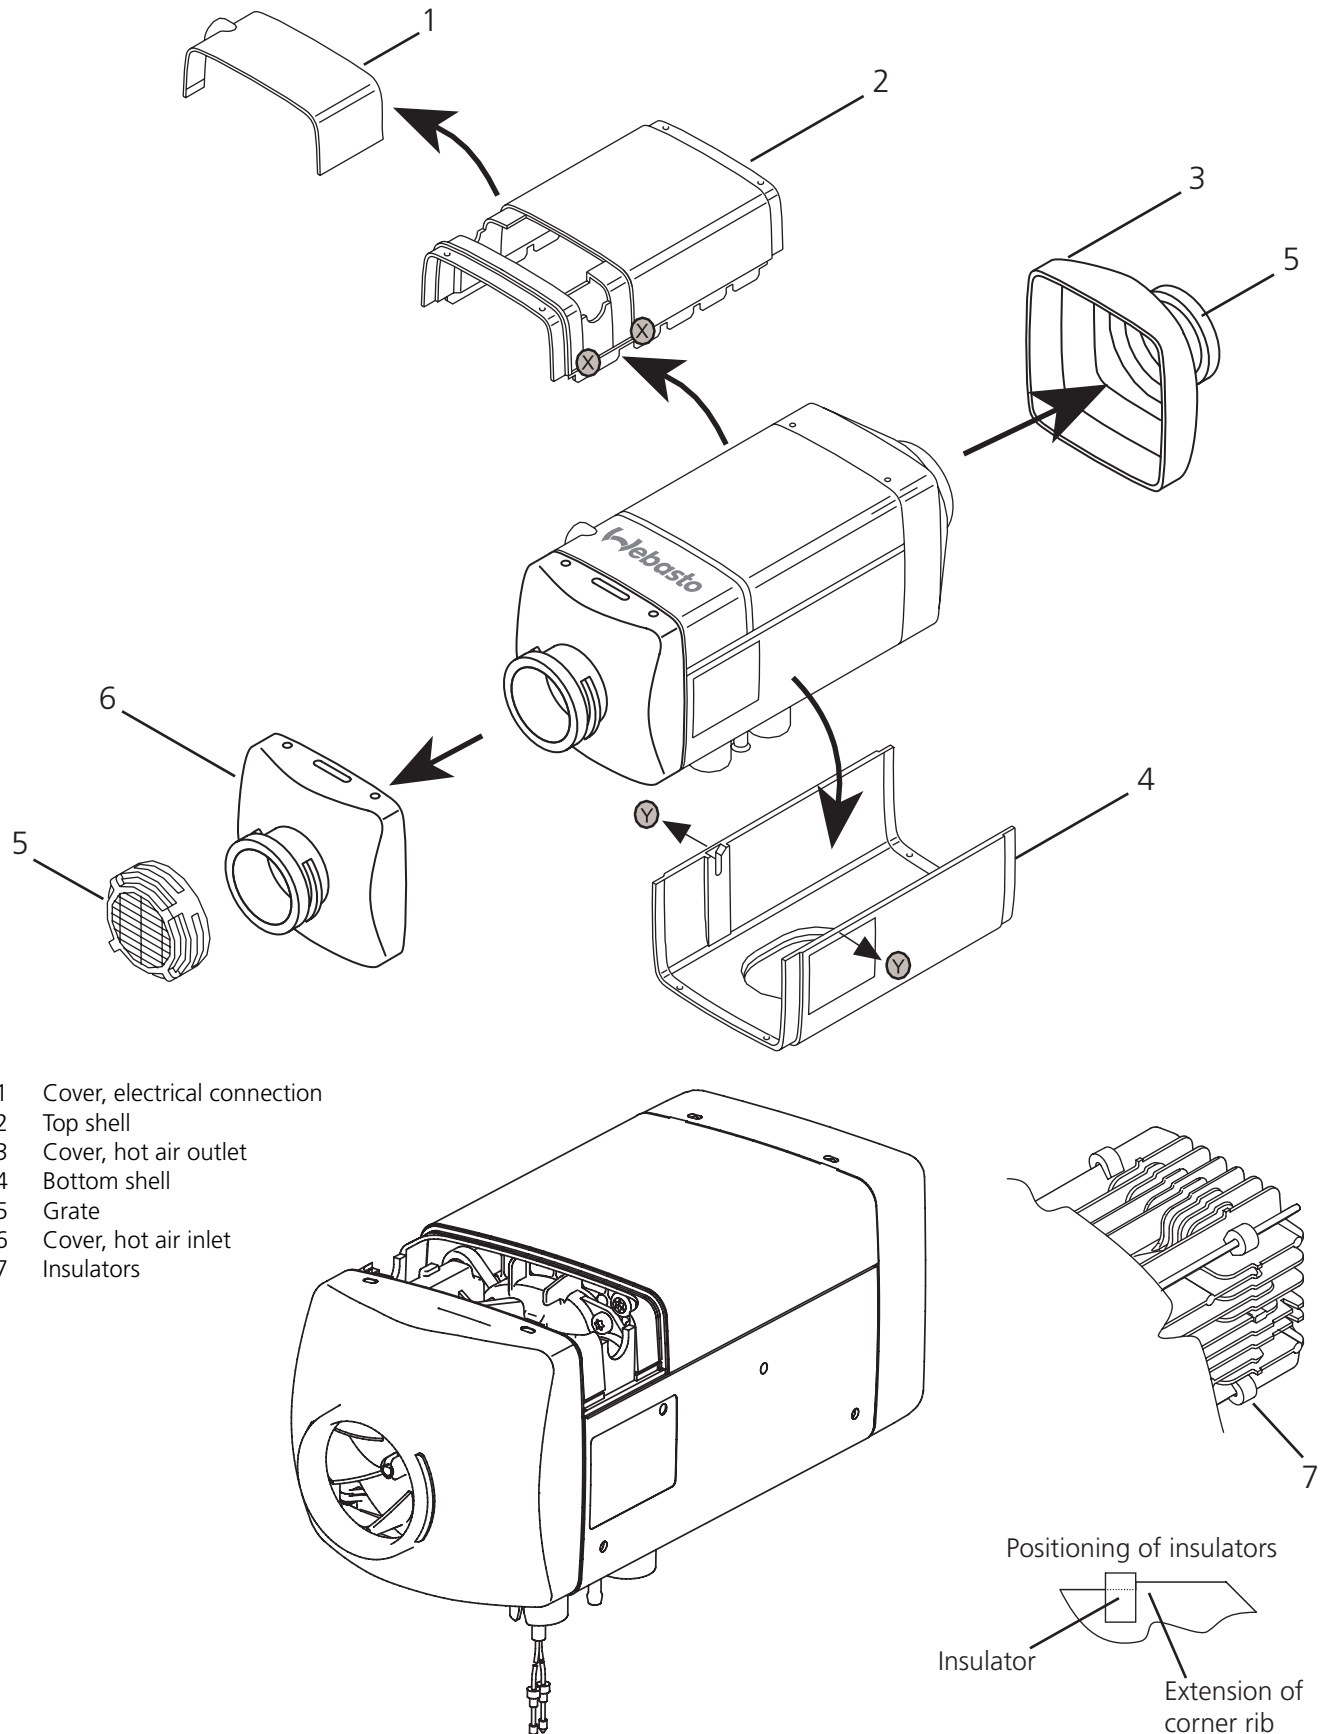

Figure 29: Remove / Fit the Casing Parts
The cover (1, Fig. 29) can be levered off using a blunt blade in the areas (X).
Both covers (3 and 6, Fig. 29) can be released from their mountings and removed by pressing the four detents at the top and bottom using a suitable tool.
The shell (2, Fig. 29) can be raised by pulling up.
By gently pulling the bottom shell (4, Fig. 29) on both sides in the areas (Y), you can release the fixing and the shell can be taken off the motor casing.
- Slide the four insulators (8, Fig. 29) onto the four corner ribs of the heat exchanger and position exactly next to the rib extension.
- Check that all four insulators (8, Fig. 29) are securely positioned.
**CAUTION:** When you fit the bottom shell (4, Fig. 29), spread it slightly so that the spacers on the overheating sensor (8, Fig. 30) are not damaged.
- Expand the bottom shell (4, Fig. 29) slightly at the side and fit it to the heater from underneath until the securing pins on the heater engage in the holes in the shell.
- Place the top shell (2, Fig. 29) on the heater and secure it in the grooves in the bottom shell.
- Push on the covers (3 and 6, Fig. 29) until the four securing holes engage properly in the detents on the bottom and top covers.
Fit the grates (5, Fig. 29) on the covers for the hot air inlet and outlet and twist them to secure them.
- Fit the cover (1, Fig. 29) until it audibly engages in the top cover.